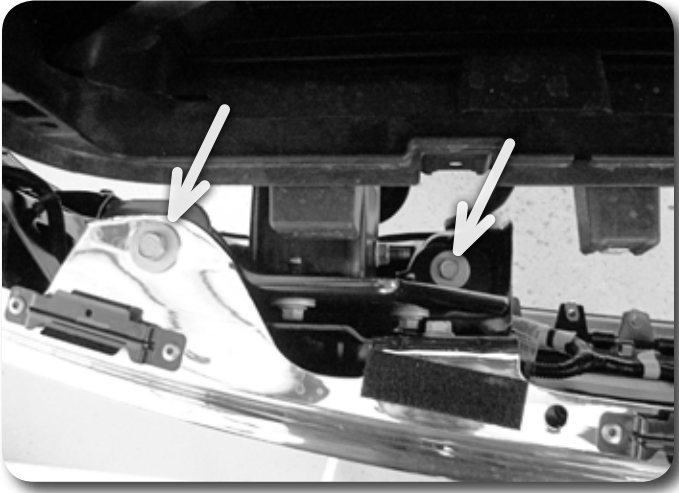

Figure 7- Pass. Side Shown
9. Remove the four bumper bolts that mount the bumper to the frame brackets. **Figure 7** Remove the bumper from the vehicle.